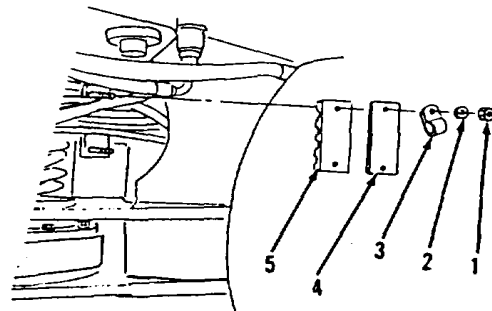

Figure 16-1.
- 32. Install clamp (5), plate (4), clip (3), two washers (2) and nuts (1, Figure 16-1) under left, front of engine compartment.